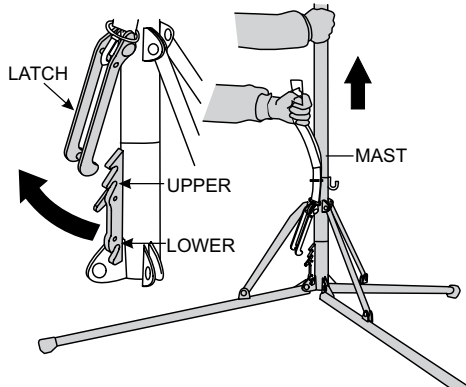

Figure 20. Retracting Tripod Legs
3. Unzip the zipper on the protective cover (Figure 20), and pull down cover over balloon/lamp assembly.
7. To retract tripod legs (Figure 20) and place in the stow position, lift up on mast while pulling up on the velcro strap. Continue pulling upward on the mast until the tripod legs are fully retracted and are in the stow position.